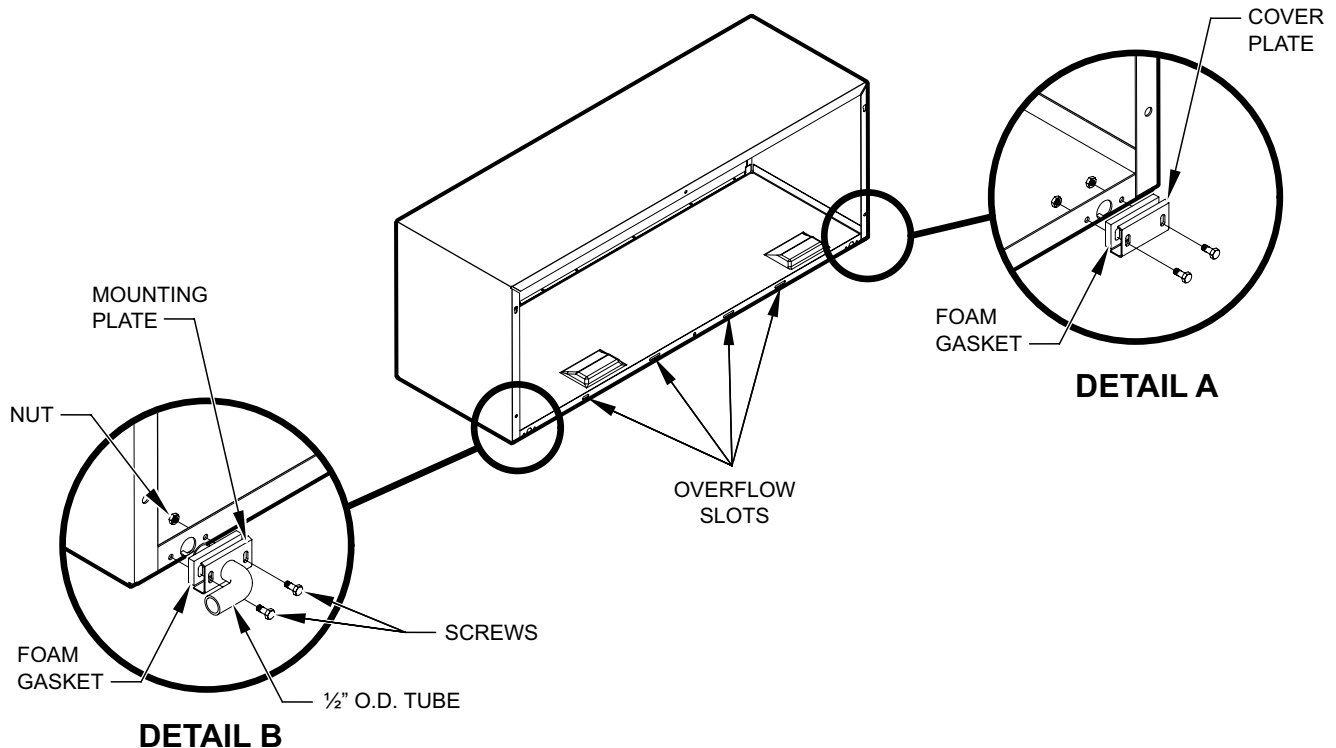

Figure C.4.2 (External Drain Kit Installation)
3. Remove the backing from the gasket and mount it on the flat side of the mounting plate. (See Figure C.4.2). Insert the drain tube through the hole in the gasket and mounting plate so the tube flange will be
6. Referring to C.4.2 locate and assemble the (2) two cover plates and gaskets over the drain holes at the rear of the wall sleeve. Attach them with the #10 sheet metal screws provided. Make certain that the four overflow slots at the rear of the wall sleeve are not blocked (See drawing of the back of the sleeve Figure C.4.2).
If the wall sleeve has not been installed, the drain tube must be rotated to a horizontal position until after the sleeve is installed. Tighten the mounting plate screws when the tube is in the proper position. Make certain that the four overflow slots at the rear of the wall sleeve are not blocked (See Figure C.4.2).
2. From inside the building, position the wall sleeve in the opening and push it into the wall until it protrudes at least 1/2" on the outside. Do not allow sleeve to be pulled. (See Figure C.4.2).